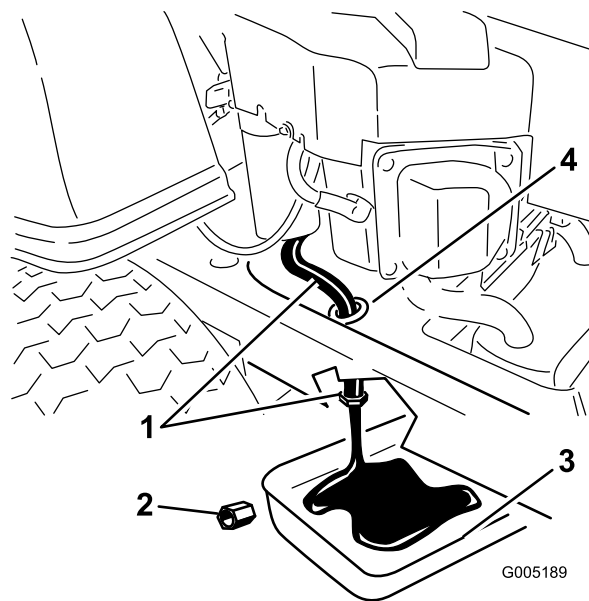

Figure 33
5. Locate the oil drain hose on the left side of the engine. The drain plug is attached to a drain hose routed through a drain hole in the machine frame (Figure 33). Clean the area around the oil drain plug cap and the oil drain hose.
6. Place a pan underneath machine directly below the oil drain hose as shown in Figure 33.
7. Using two wrenches (one to hold the oil drain hose and one to loosen the plug), remove the oil drain plug (Figure 33).
13. When oil has drained completely, install the oil drain plug. Tighten the plug to 14 N-m (125 in-lb) torque. Wipe up any excess oil (Figure 33).